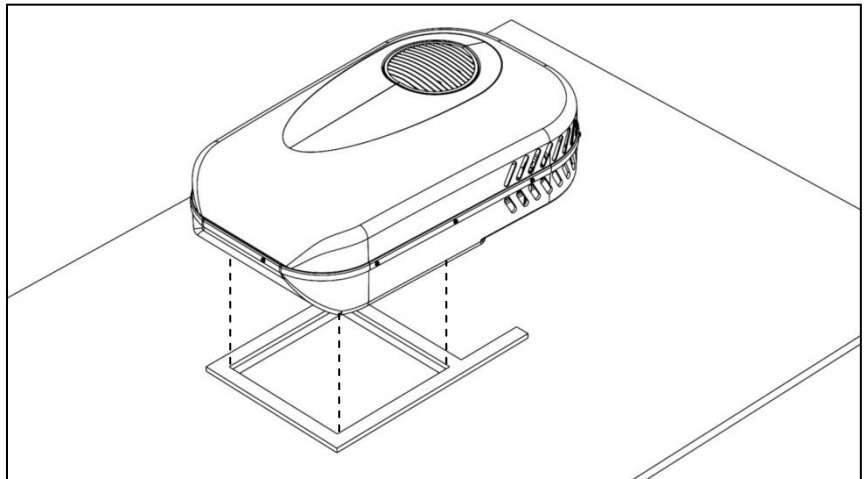

Fig 6: Position the SPARROW over the roof gasket and set it down gently
- Position the unit over the gasket so that the corners of the square hole in the caravan roof line up with the corners of the square hole underneath the unit (Fig 6).